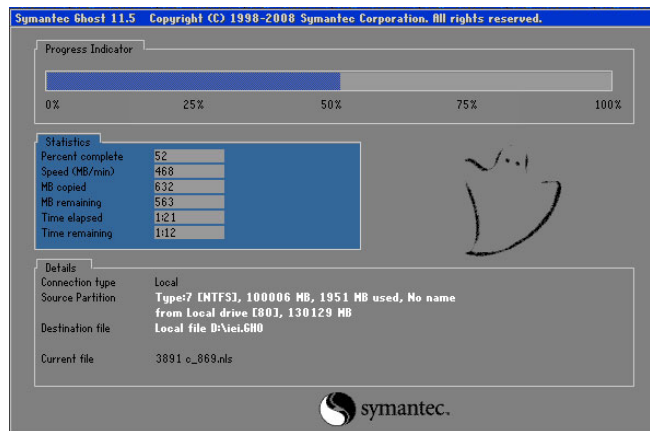

Figure B-16: Image Creation Complete
Step 10: The Symantec Ghost starts to create the factory default image (**Figure B-16**).